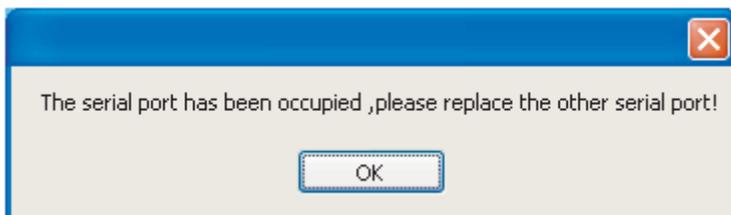

Fig. 4-11
8) In case the selected serial port is unavailable, the window as Fig.4-11 will be display.